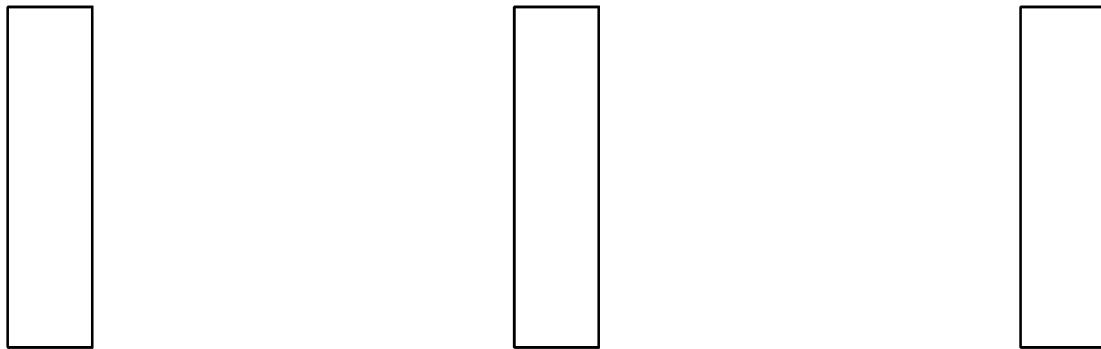

FIGURE 17-3.15 Box family copied for *Type* versus *Instant* study
26. Make two copies of the *Box Family 6'-0"* towards the **right** as shown in Figure 17-3.15 below.